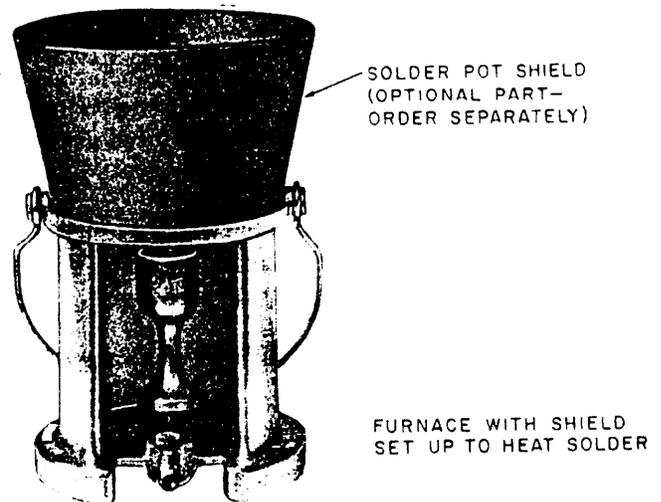

Fig. 3 - Solder Pot Shield in Place on Furnace
- 2.03 A shield is available that may be placed on the furnace as shown in Fig. 3 when the furnace is used to heat solder.